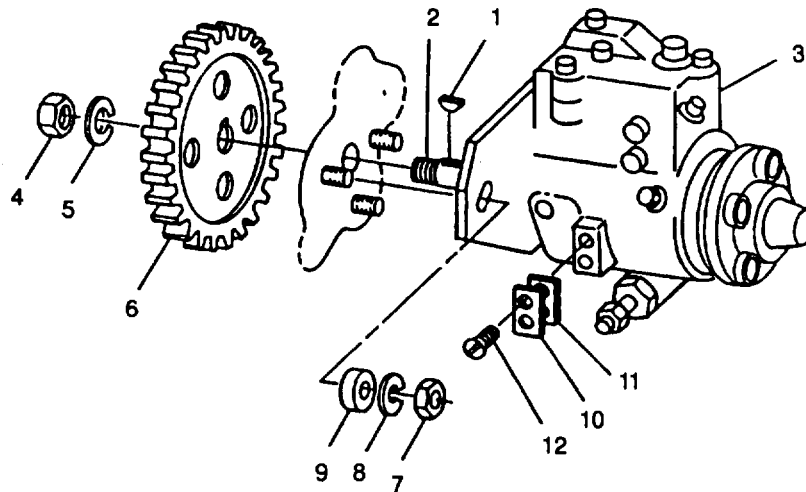

FIGURE 3-91. Fuel Injection Pump Installation
- b. Make sure woodruff key (1, FIGURE 3-91) is installed in pump shaft (2) and that it is not loose in shaft.
- j. Connect fuel tube assembly (6) to fitting (15) on fuel pump.
- m. Position timing hole cover plate (10, FIGURE 3-91) with new gasket (11) on pump. Install two screws (12) and secure cover. Tighten screws to 17 in-lbs (2 Nm).
- b. If marks are not aligned, disconnect fuel lines to pump and loosen three mounting nuts (7, FIGURE 3-91).
- d. Tighten three mounting nuts (7) securing pump to front plate to 20 ft-lbs (27 Nm).
- a. Clean area around timing hole cover plate on side of pump and remove cover plate (10, FIGURE 3-91).
- d. If marks are not aligned, disconnect fuel lines from pump and loosen mounting nuts (7, FIGURE 3-91).
- f. Tighten mounting nuts (7) to 20 ft-lbs (27 Nm).
- g. Install timing hole cover plate (10, FIGURE 3-91) with new gasket (11). Install screws (12) and torque to 17 in-lbs (2 Nm).